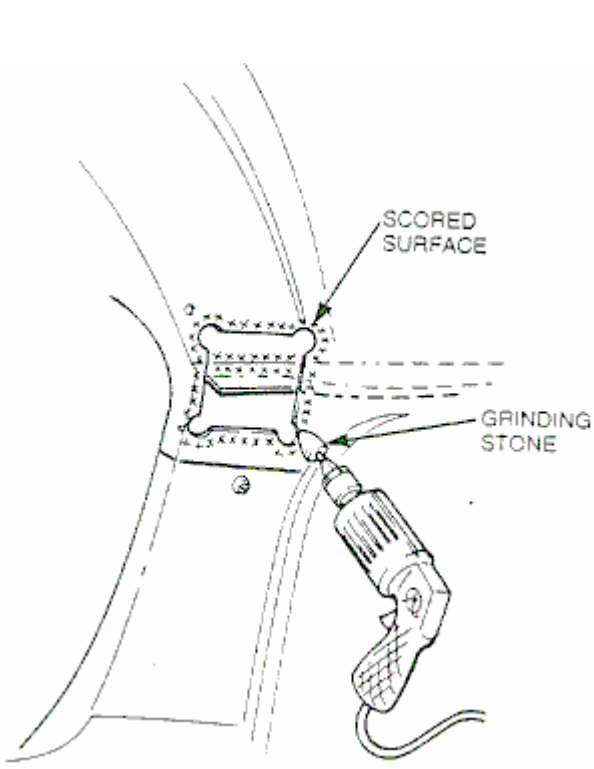

FIGURE 6
20. Use a grinding stone, sandpaper, or wire brush on a drill to remove surface rust on the inside of the roof and sail panels and to clean the surface where the two-part epoxy will be applied (refer to Figure 6).
21. Use a grinding stone, sandpaper, or wire brush on a drill to score the periphery of the access hole for better adhesion of the two-part epoxy for the cover plate (refer to Figure 6).